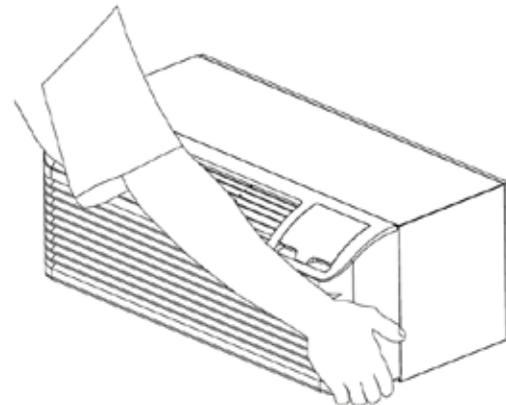
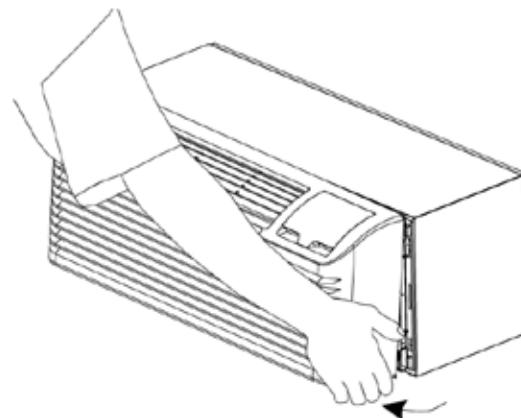

Fig. 6 Cabinet Front Removal View 1
Fig. 7 Cabinet Front Removal View 2
- **LS Control (front-desk control)** - The unit can be turned ON/OFF by a front desk control switch. The control wire, colored purple, locates in the wall mounted thermostat interface (refer to Fig. 7 on page 8).
1. Remove Front Panel. See Fig. 6 and Fig. 7.